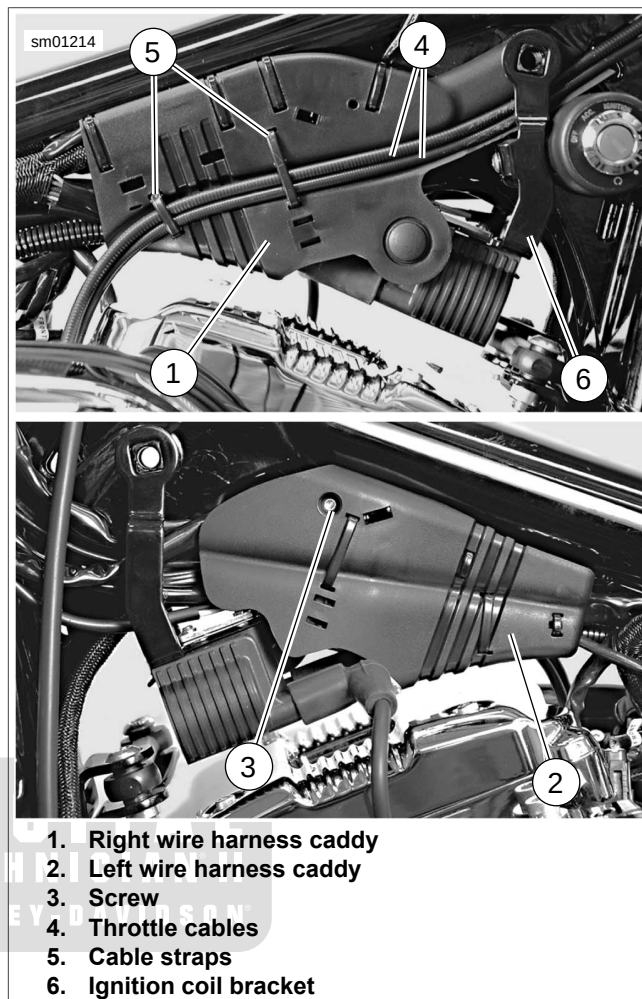
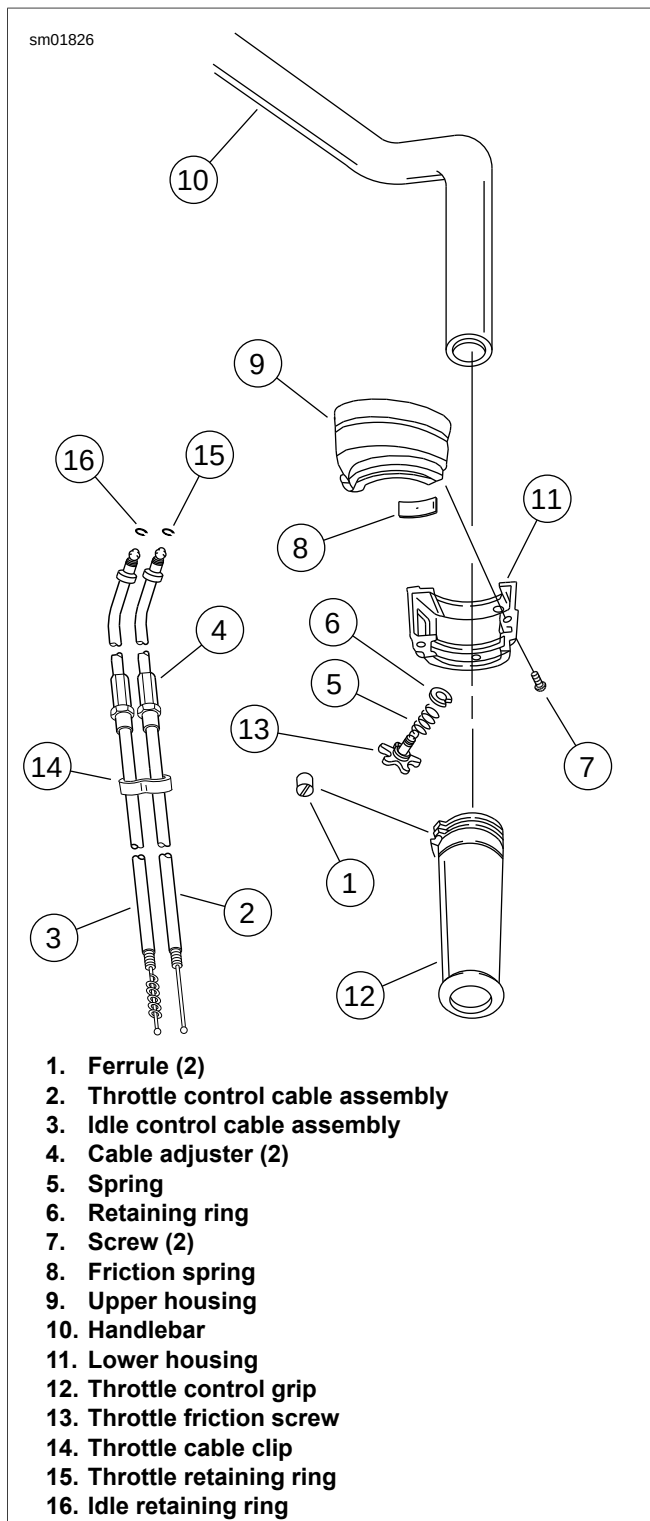
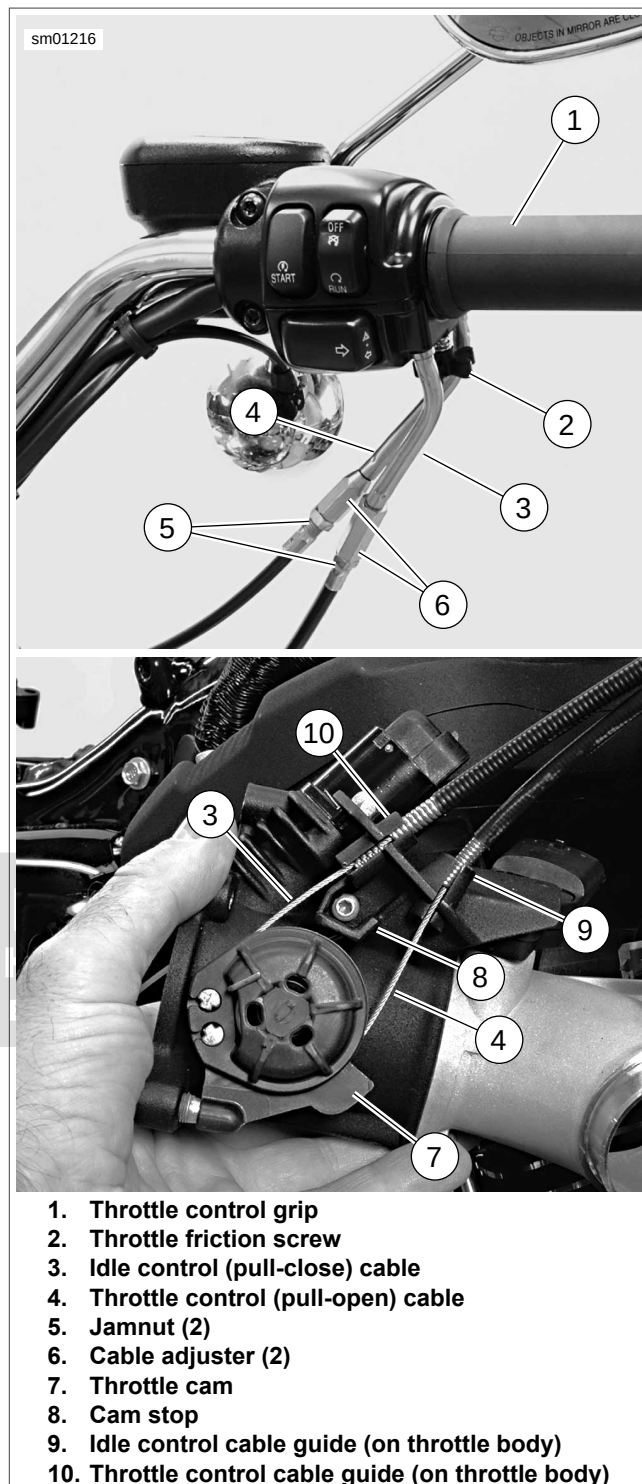

Figure 2-174. Wire Harness Caddy Assembly: XL Models
Figure 2-175. Throttle Control, Right Handlebar
Figure 2-176. Throttle/Idle Control Cable (typical)
- a. See Figure 2-174. Remove screw (3) securing left wire harness caddy (2) to right wire harness caddy (1). See 6.28 ELECTRICAL CADDIES. Separate left wire harness caddy from right wire harness caddy.
- b. Cut cable straps (5) securing throttle cables (4) to right wire harness caddy. Remove and discard cable straps.
- c. Disengage ignition coil bracket (6) uprights from frame bosses and remove throttle cables from recess in right wire harness caddy.
6. See Figure 2-175. Slide rubber boot off each cable adjuster (4).
7. See Figure 2-176. Loosen jamnut (5) on each adjuster (6). Turn adjusters in direction which will shorten cable housings to minimum length.
8. See Figure 2-175. Remove two screws (7) and separate upper housing (9) from lower housing (11).
9. Unhook ferrules (1) and cables (2, 3) from throttle control grip (12) and lower housing (11).
13. See Figure 2-175. Remove friction spring (8), throttle friction screw (13) and spring (5) from lower housing.
- See Figure 2-175. Apply a light coating of graphite to the handlebar (10) and the inside surface of the upper and lower housings (9, 11).
- Install spring (5), throttle friction screw (13) and friction spring (8) in lower housing (11).
- Attach cable assemblies (2, 3) to lower housing. See Figure 2-176. Throttle control cable (4) has a 5/16 in (7.9 mm) fitting end and is positioned to front of lower housing. Idle control cable (3) has a 1/4 in (6.3 mm) fitting end and is positioned to rear of lower housing.
- See Figure 2-175. Connect cables:
- Install throttle control grip (12) over end of right handlebar (10).
- Position lower housing (11) onto right handlebar, engaging lower housing with throttle control grip.
- Position ferrules (1) over cable ball ends.
- Install upper housing (9) over handlebar. Install the lower housing using screws (7). Tighten to 35-45 in-lbs (4.0-5.1 Nm).
- Route the cables forward between right fork and brake hose (1).
- Pass the cables through the wire retainer (2) on the lower fork.
- See Figure 2-176. Install idle control cable (3) housing into inboard (idle) cable guide (9) on induction module.
- Install throttle control cable (4) housing and spring into outboard cable guide (10) on induction module.
- XL Models:** See Figure 2-174. Place throttle cables (4) into channel in right wire harness caddy (1). Secure with two cable straps (5).
- XL Models:** See Figure 2-174. Mount left wire harness caddy (2) to right wire harness caddy (1). Secure with screw (3) and tighten.